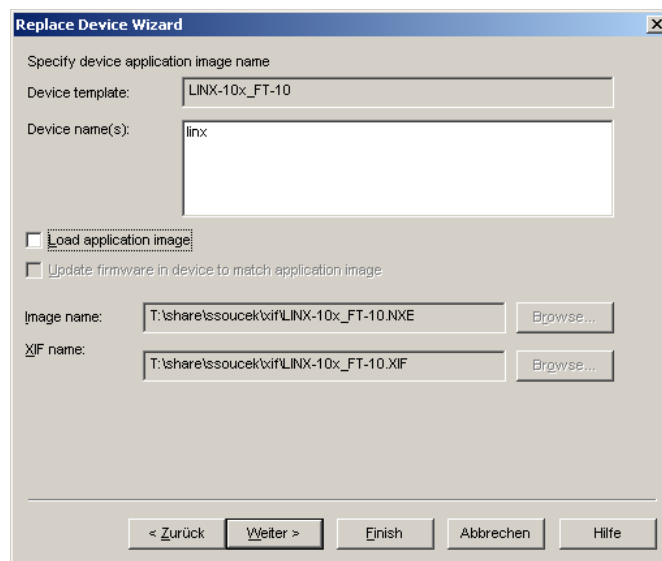

Figure 116: Click Next without loading an application image.
4. In the following window shown in Figure 116 click **Next**.